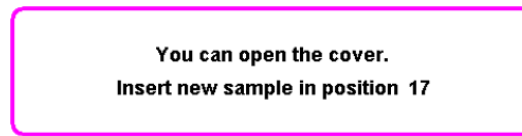

Figure 39 – Cover open
2. A prompt to authorize opening the lid will display (Figure 39)